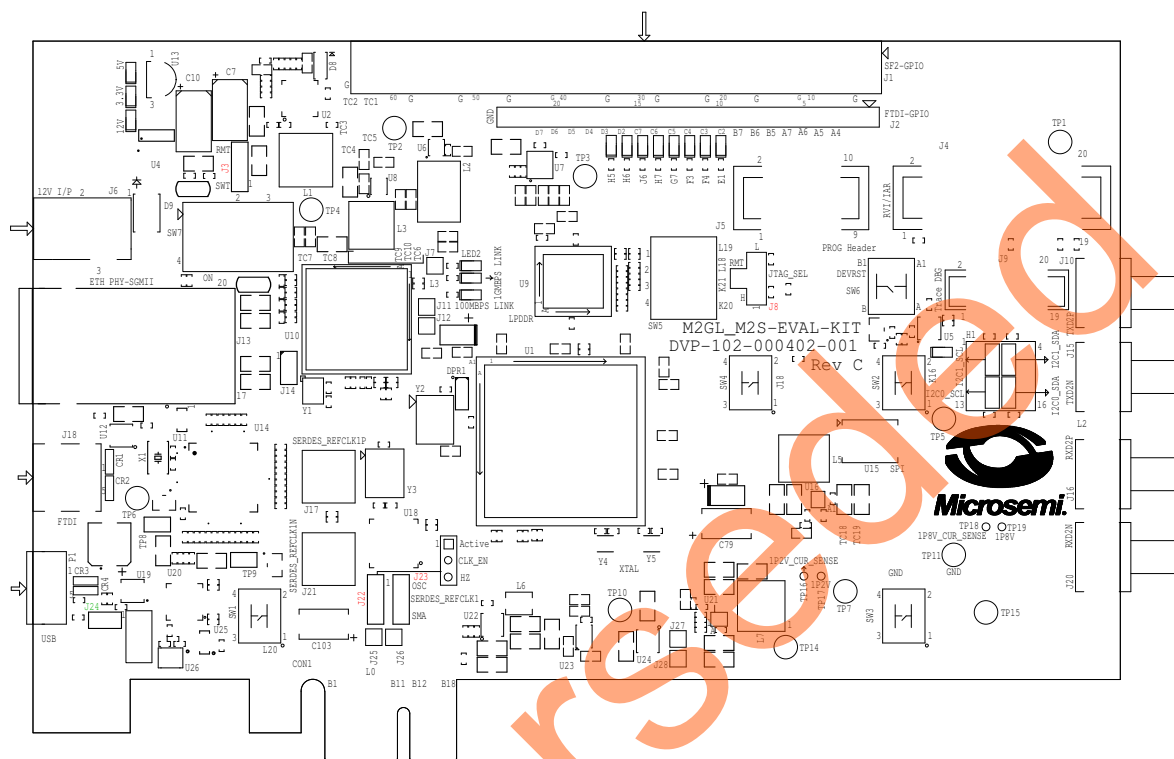

Figure 14 • SmartFusion2 Evaluation Kit Silkscreen Top View
Figure 14 shows the jumper locations in the SmartFusion2 Evaluation Kit board.
- The locations of the jumpers in Figure 14 are searchable.